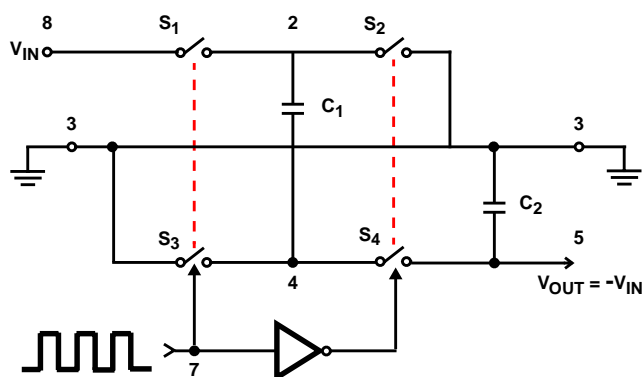
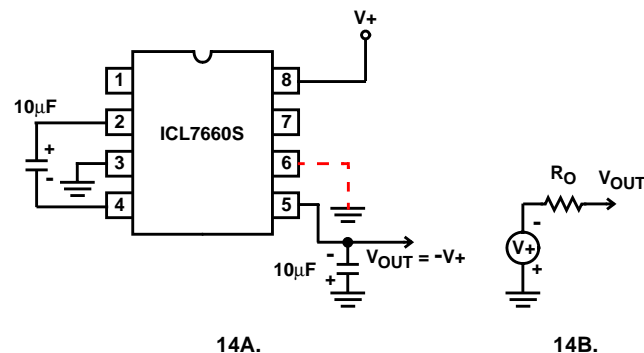
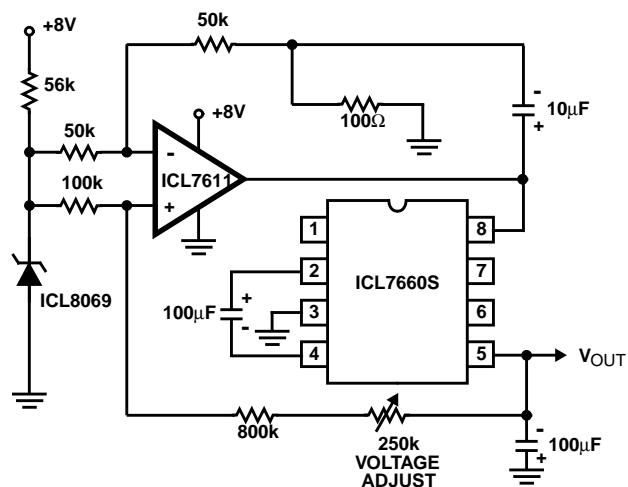
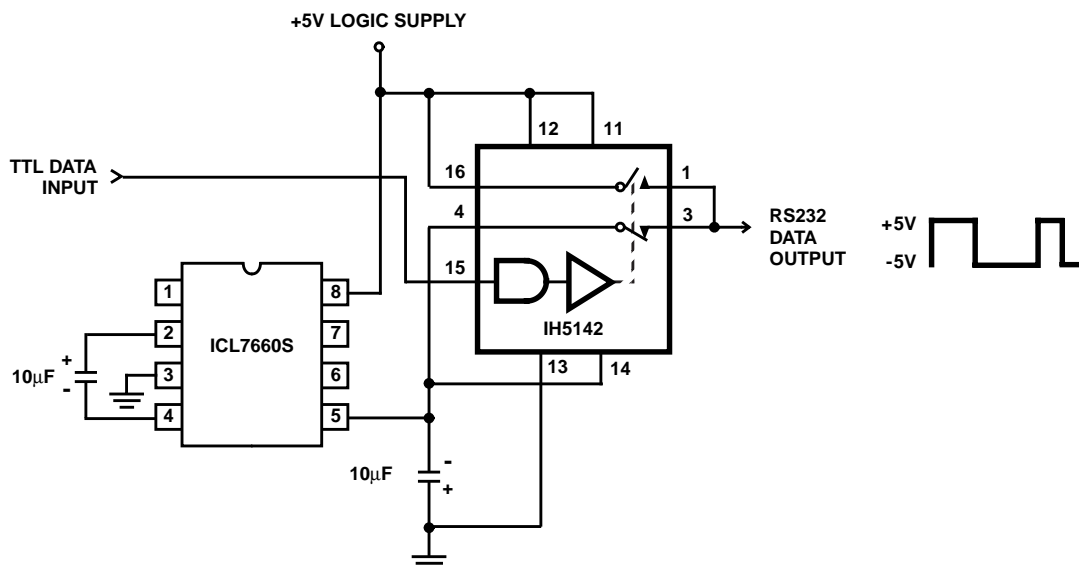

FIGURE 13. IDEALIZED NEGATIVE VOLTAGE CONVERTER
FIGURE 14. SIMPLE NEGATIVE CONVERTER AND ITS OUTPUT EQUIVALENT
FIGURE 20. REGULATING THE OUTPUT VOLTAGE
FIGURE 21. RS232 LEVELS FROM A SINGLE 5V SUPPLY
The ICL7660S contains all the necessary circuitry to complete a negative voltage converter, with the exception of 2 external capacitors which may be inexpensive 10μF polarized electrolytic types. The mode of operation of the device may be best understood by considering Figure 13, which shows an idealized negative voltage converter.
In the ICL7660S, the 4 switches of Figure 13 are MOS power switches; S_1 is a P-Channel devices and S_2 , S_3 and S_4 are N-Channel devices. The main difficulty with this approach is that in integrating the switches, the substrates of S_3 and S_4
where V_1 and V_2 are the voltages on C_1 during the pump and transfer cycles. If the impedances of C_1 and C_2 are relatively high at the pump frequency (refer to Figure 13) compared to the value of R_L , there will be substantial difference in the voltages V_1 and V_2 . Therefore it is not only desirable to make C_2 as large as possible to eliminate output voltage ripple, but also to employ a correspondingly large value for C_1 in order to achieve maximum efficiency of operation.
The majority of applications will undoubtedly utilize the ICL7660S for generation of negative supply voltages. Figure 14 shows typical connections to provide a negative supply where a positive supply of +1.5V to +12V is available. Keep in mind that pin 6 (LV) is tied to the supply negative (GND) for supply voltage below 3.5V.
The output characteristics of the circuit in Figure 14 can be approximated by an ideal voltage source in series with a resistance as shown in Figure 14B. The voltage source has a value of $-(V^+)$. The output impedance (R_O) is a function of the ON resistance of the internal MOS switches (shown in Figure 13), the switching frequency, the value of C_1 and C_2 , and the ESR (equivalent series resistance) of C_1 and C_2 . A good first order approximation for R_O is:
The ICL7660S may be employed to achieve positive voltage doubling using the circuit shown in Figure 20. In this application, the pump inverter switches of the ICL7660S are used to charge C_1 to a voltage level of $V_+ - V_F$ (where V_+ is the supply voltage and V_F is the forward voltage on C_1 plus the supply voltage (V_+) is applied through diode D_2 to capacitor C_2 . The voltage thus created on C_2 becomes $(2V_+) - (2V_F)$ or twice the supply voltage minus the combined forward voltage drops of diodes D_1 and D_2 .
Figure 21 combines the functions shown in Figure 14 and Figure 20 to provide negative voltage conversion and positive voltage doubling simultaneously. This approach would be, for example, suitable for generating +9V and -5V from an existing +5V supply. In this instance capacitors C_1 and C_3 perform the pump and reservoir functions respectively for the generation of the negative voltage, while capacitors C_2 and C_4 are pump and reservoir respectively for the doubled positive voltage. There is a penalty in this configuration which combines both functions, however, in that the source impedances of the generated supplies will be somewhat higher due to the finite impedance of the common charge pump driver at pin 2 of the device.